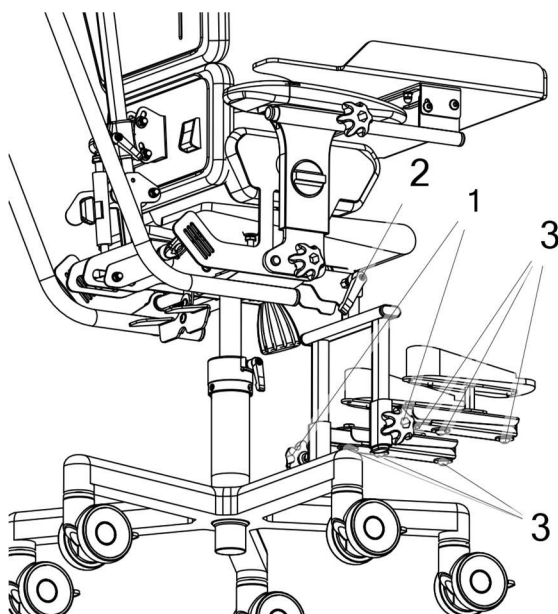

Fig. 7
In order to adjust the proper height of the foot platform loosen both knobs (1) Fig. 7, slide the platforms to the desired height and tighten the knobs (1). They operate independently from each other, making it possible to adjust the platform height asymmetrically. In order to set the proper angle of the foot platform loosen the angle knob (2), set the desired angle and tighten the knob (2).